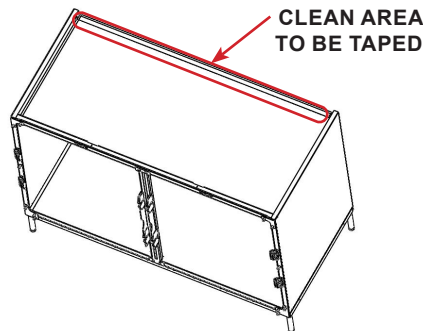

FIGURE 2.61 - Cage Surface Prep
**STEP 14:** Thoroughly clean the top of the cage(s) with alcohol wipes to remove grease, oil and dirt. The two-sided tape will not adhere to surfaces if not clean and clear of dirt and oils. Refer to "Use and Care" section for safe cleaning recommendations. See FIGURE 2.61